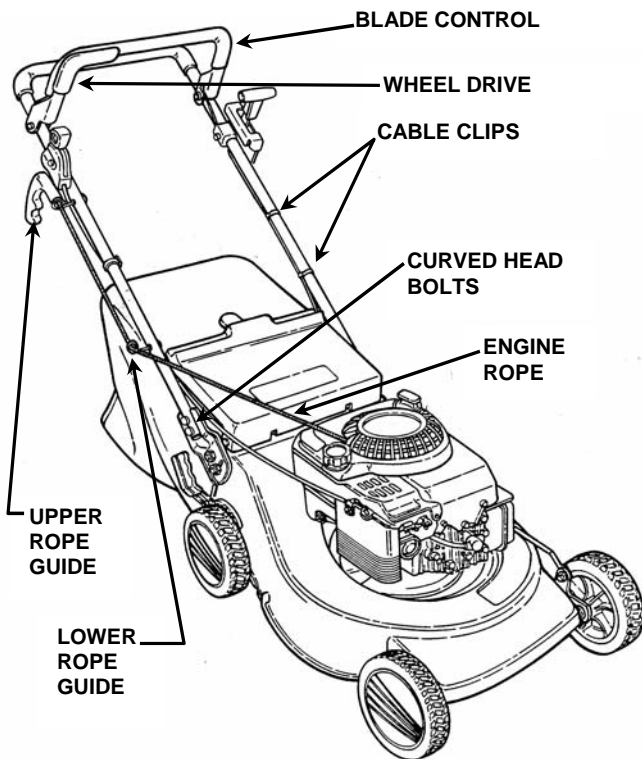

FIGURE 1
STEP 1: Remove unit from carton and unfold handle. Do this carefully to prevent cables from hanging up or becoming kinked. It will be necessary to remove cardboard isolators between the handles and knobs. Tighten Handle Knobs securely. See Figure 1.
STEP 2: Hold blade control bail down and at the same time, pull engine rope handle and wrap pull cord into rope guides that are located on handles. See Figure 1.